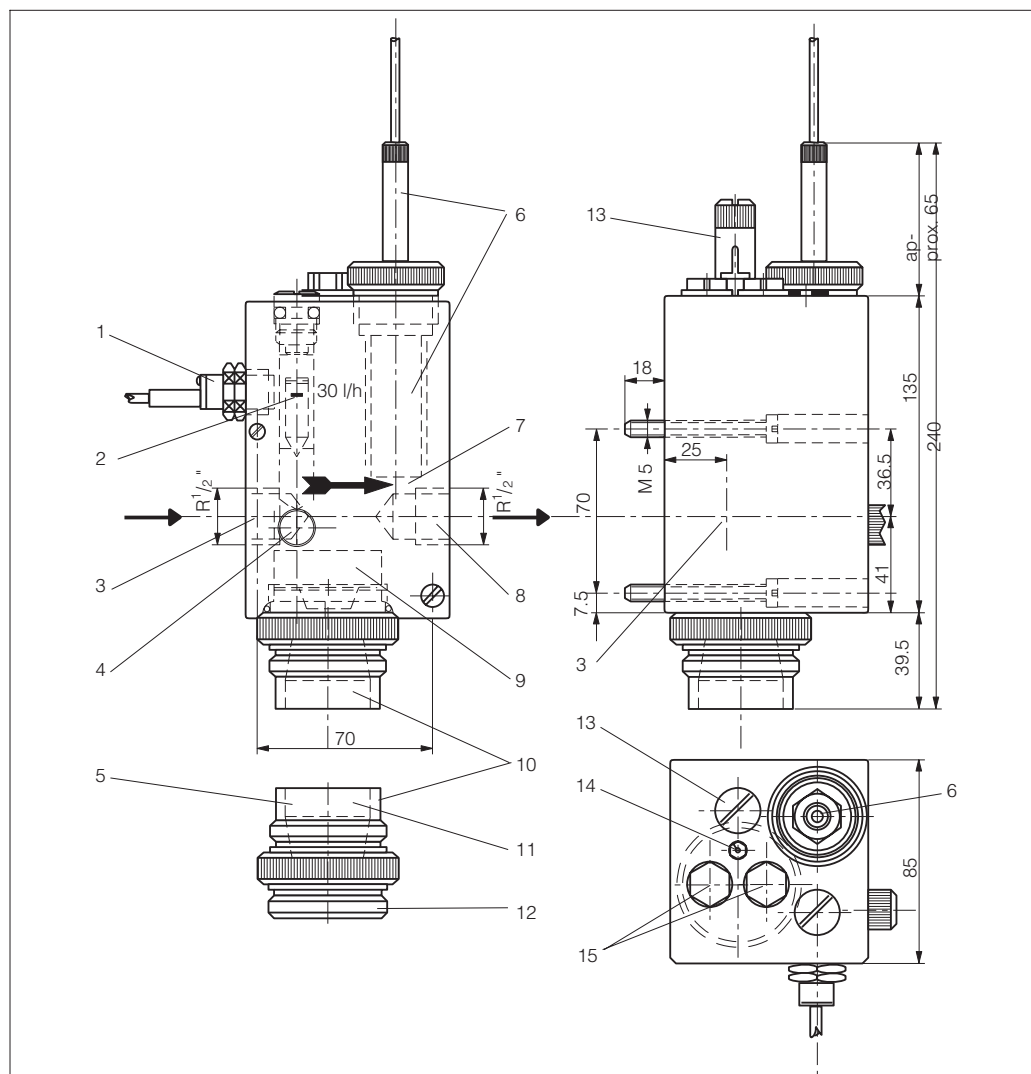

Fig. 2 CCA 250
The minimum flow rate of 30 litres per hour required for the membrane-covered chlorine measuring cell is controlled by means of needle valve (4), compare fig. 2 on next page. The upper edge of the floating body must be above the red bar on the plexiglass body.
- Installation of chlorine measuring cell CCS 140 or CCS 141 (see fig. 2):